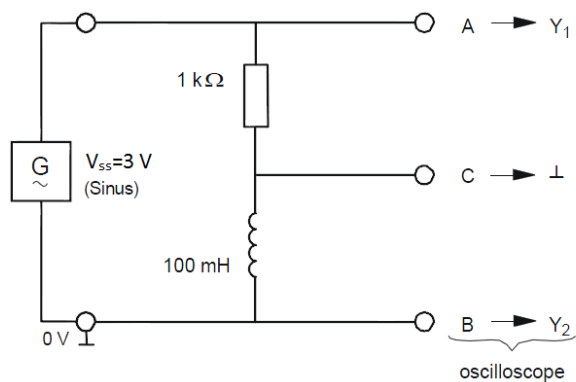

Figure 3
4. To determine the phase shift between the current I_L and the voltage V_L . Change the positive square wave to sin wave with amplitude 3Vpp, then connect ch1 at point B (voltage monitor), and ch2 at point D (current monitor) as in Fig. 3